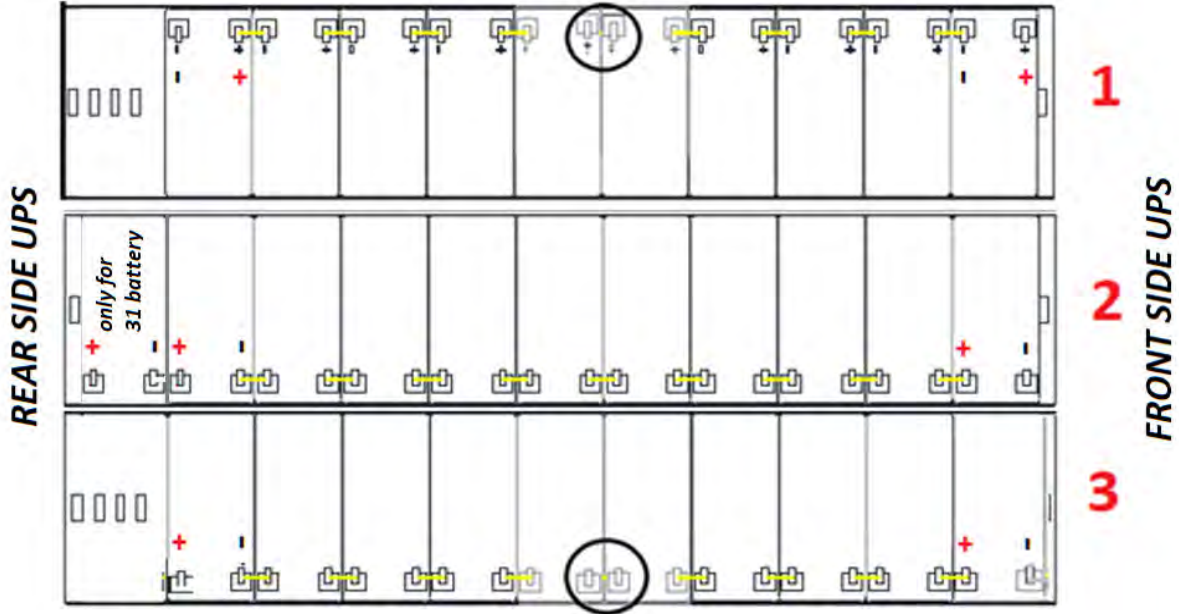

Figure 12 - View from above Level No.1
5) On Level no. 1, insert trays no. 1-2-3 in compliance with the position as demonstrated in Figure 12.